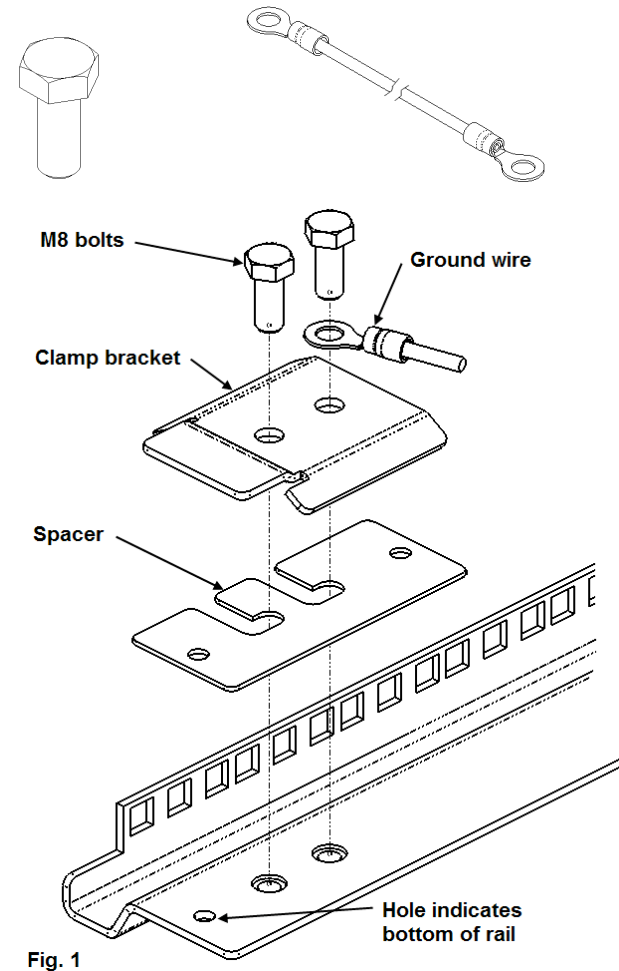

Fig. 1
1. Assemble a clamp bracket and spacer to the bottom of each rail as shown in figure 1; leave the bolts loose. Note: The bottom of the rail is indicated by the small hole at the end of the rail. Attach the ground wire under the head of the top bolt.